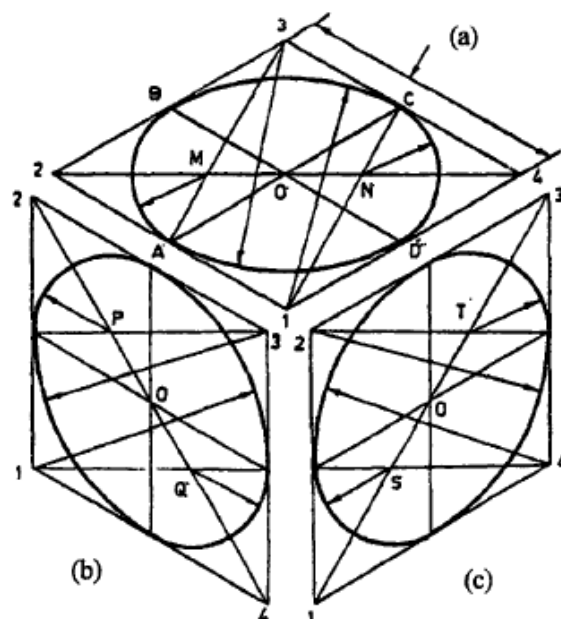

Fig. 5.35
5. The ellipse ABCD is the required isometric projection of the horizontal circular plane (Fig. 5.35 a).
6. Similarly obtain the isometric projection in the vertical plane as shown in Fig. 5.35 b & c.